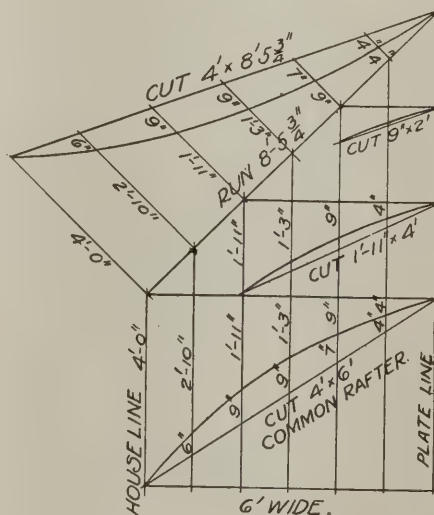

Fig. 2
W. T. C., Excelsior Springs, Mo., writes: "Carpenters are some times called upon to construct a curved hip roof, and as this type is used too seldom to allow the average carpenter much experience in making it, the following method of cutting out such a roof on the ground all ready to nail up may be of interest to NATIONAL BUILDER readers, especially to the younger ones. This style of roof is used more especially on porches, bay windows, domes and pagodas. Using a scale of 1 in. to 1 ft., lay off on a smooth board or drafting board the plan, 6 ft. wide, as in Fig. 2. Draw the hip and main rafters as shown on the plan. Then space the run or width in equal parts—we will say six in this case—and draw lines through these points parallel with the plate line running from the incline of the Square from these points to the hip.